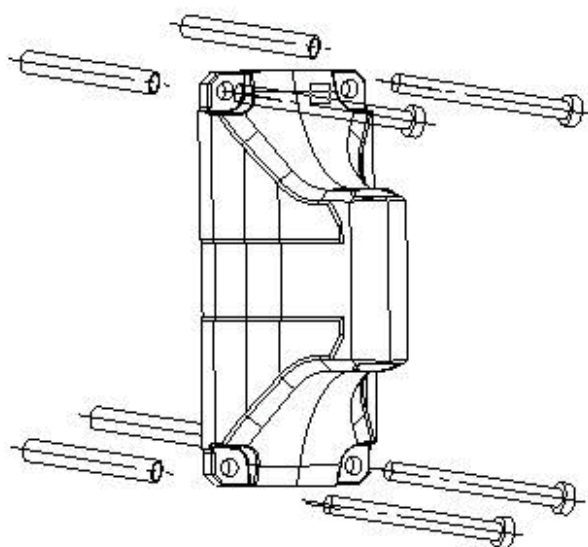

Fig.1
4. Fix the bracket by four self-taping screws accordingly. (Fig.1)